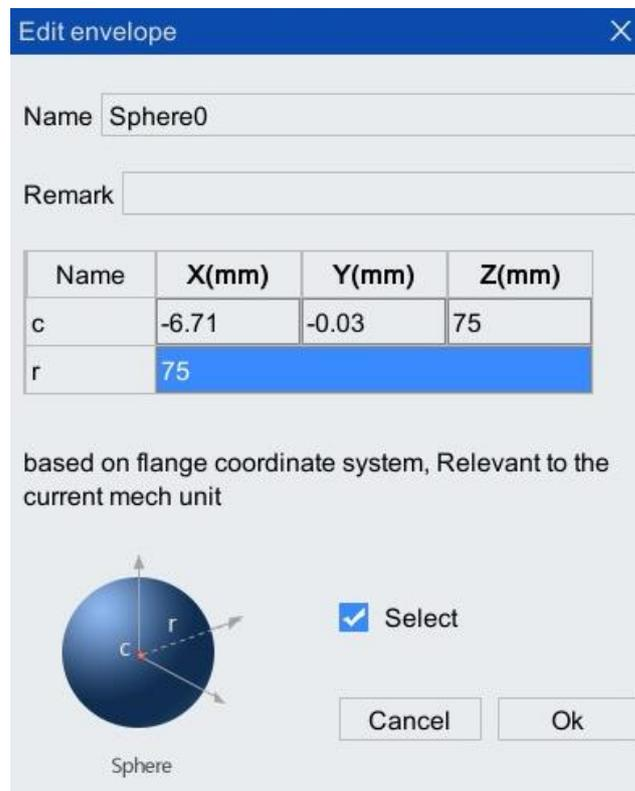

Figure 6-87 The editing interface of the tool envelope sphere "sphere0"
Step1.Set the tool envelope on the teach pendant of robot 1. First, set a tool envelope sphere named "Sphere0" for the tool, the radius of the tool envelope sphere is 75mm, and the center information of the envelope sphere is shown in Figure 6-87.